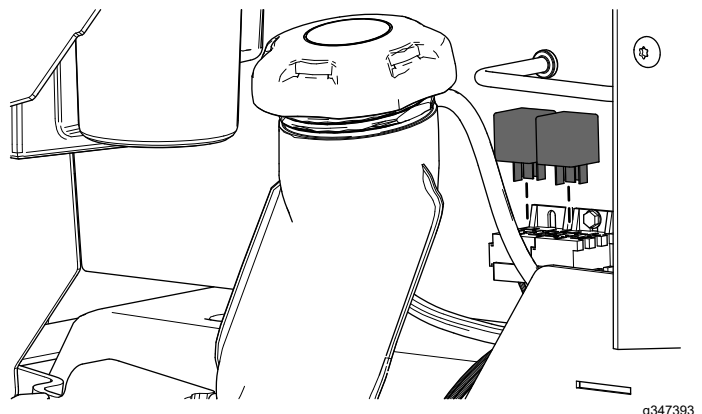

Figure 21
5. Install the 2 relays (Figure 21).